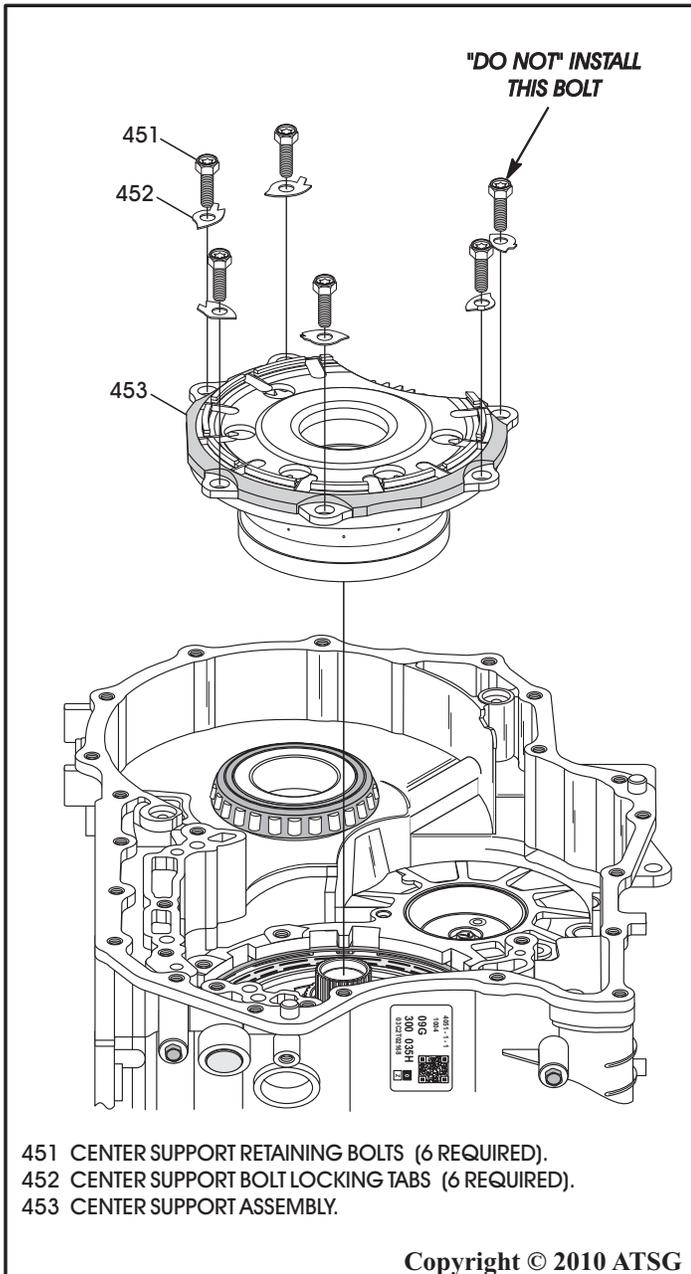

Figure 172
1. Install the completed center support assembly, as shown in Figure 172, by rotating back and forth into position.
2. Install five of the six center support retaining bolts shown in Figure 172, and hand tighten only the five installed bolts.
25. Now install the last center support retaining bolt, as shown in Figure 172, and torque all six bolts to 22 N·m (16 ft.lb.), using a 50 Torx bit.